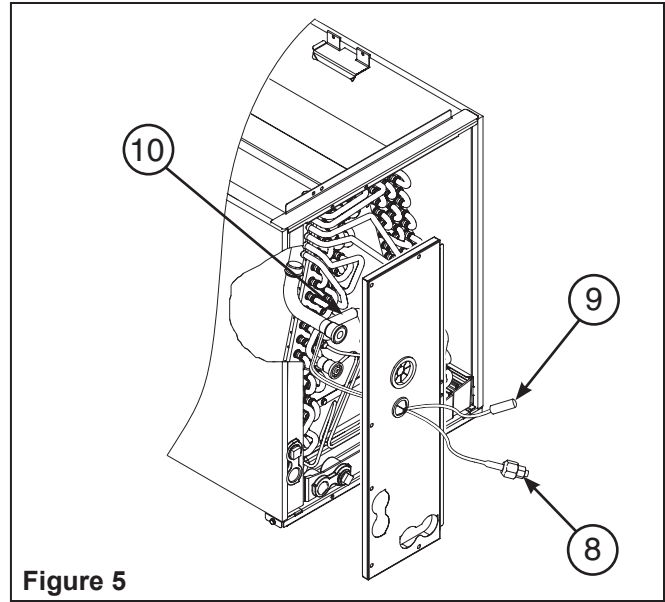

Figure 5
8. Pull the TXV equalizer line through the liquid line opening (smaller opening) on the coil line set panel (Figure 5). The TXV equalizer line must be connected to the vapor line adaptor outside of the unit.
9. Pull the TXV sensing bulb through the liquid line opening (smaller opening) on the coil line set panel (Figure 5). The TXV sensing bulb must be mounted on the vapor line set outside of the unit.
10. To prevent leaks due to corrosion from copper-aluminum interaction, loosely wrap the bulb line, equalizer line and 3/8" liquid line together with provided insulation where they cross the aluminum slab or aluminum tubing inside the cabinet (Figure 5). Make sure that the installed insulation prevents any copper from touching aluminum.